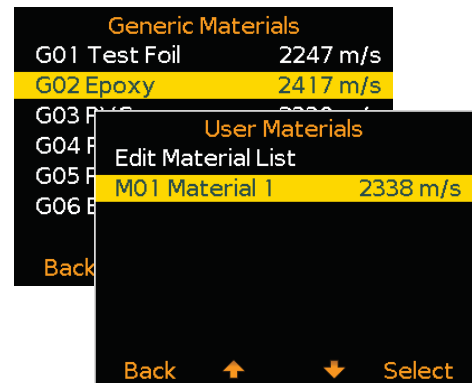

Figure 19
- 2 Use the $\uparrow\downarrow$ softkeys to highlight the required coating material followed by 'Select' (Figure 19).